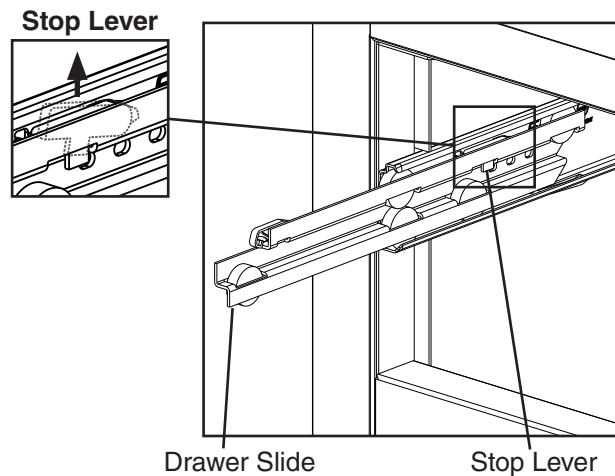

**Fig. 44**
- **To remove a drawer slide (center slide containing rollers):** Push up on the stop lever while pulling on the drawer slide. See Fig. 44. Drawer slides do not require lubrication, but drawer slides should be kept clean and free of food.